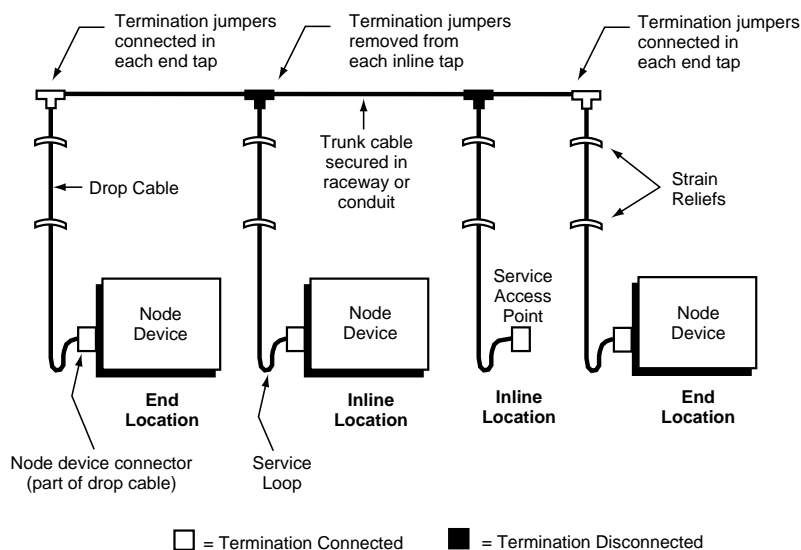

Figure 16: Typical Cable Routing
Figure 16 shows typical cable routing of the network trunk cable between tap locations. The figure also shows cable drops to several node devices and service access points.
Referring to Figure 16, route the cable between the site locations of the node devices. Guidelines for cable routing are described below.
Mount each tap at a location near its node device, preferably outside the drive controller enclosure. The tap must be near enough to the node device to allow the drop cable to reach the node device with a service loop. See Figure 16 for drop cable routing.
- The cable runs are consistent with the network cable routing illustrated in Figure 16 on page 25.